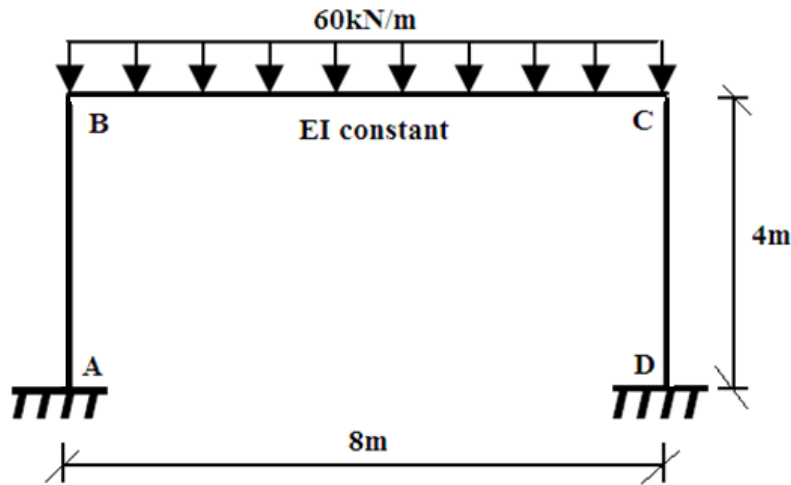

Figure Q3
Figure Q3 shows a frame of constant flexural rigidity (EI).